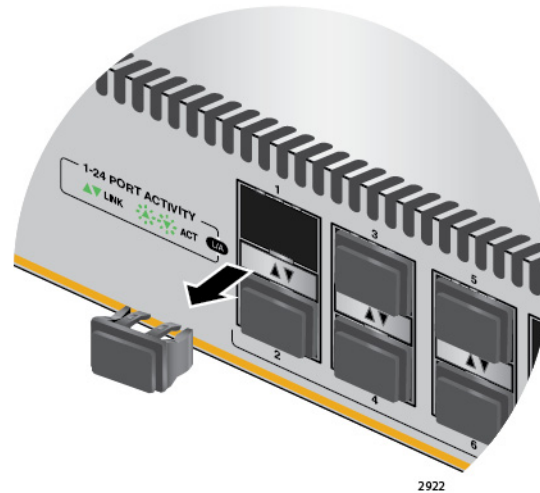

Figure 67. Removing the Dust Plug from an SFP Slot
1. Remove the dust plug from a transceiver slot on the switch. Refer to Figure 67.